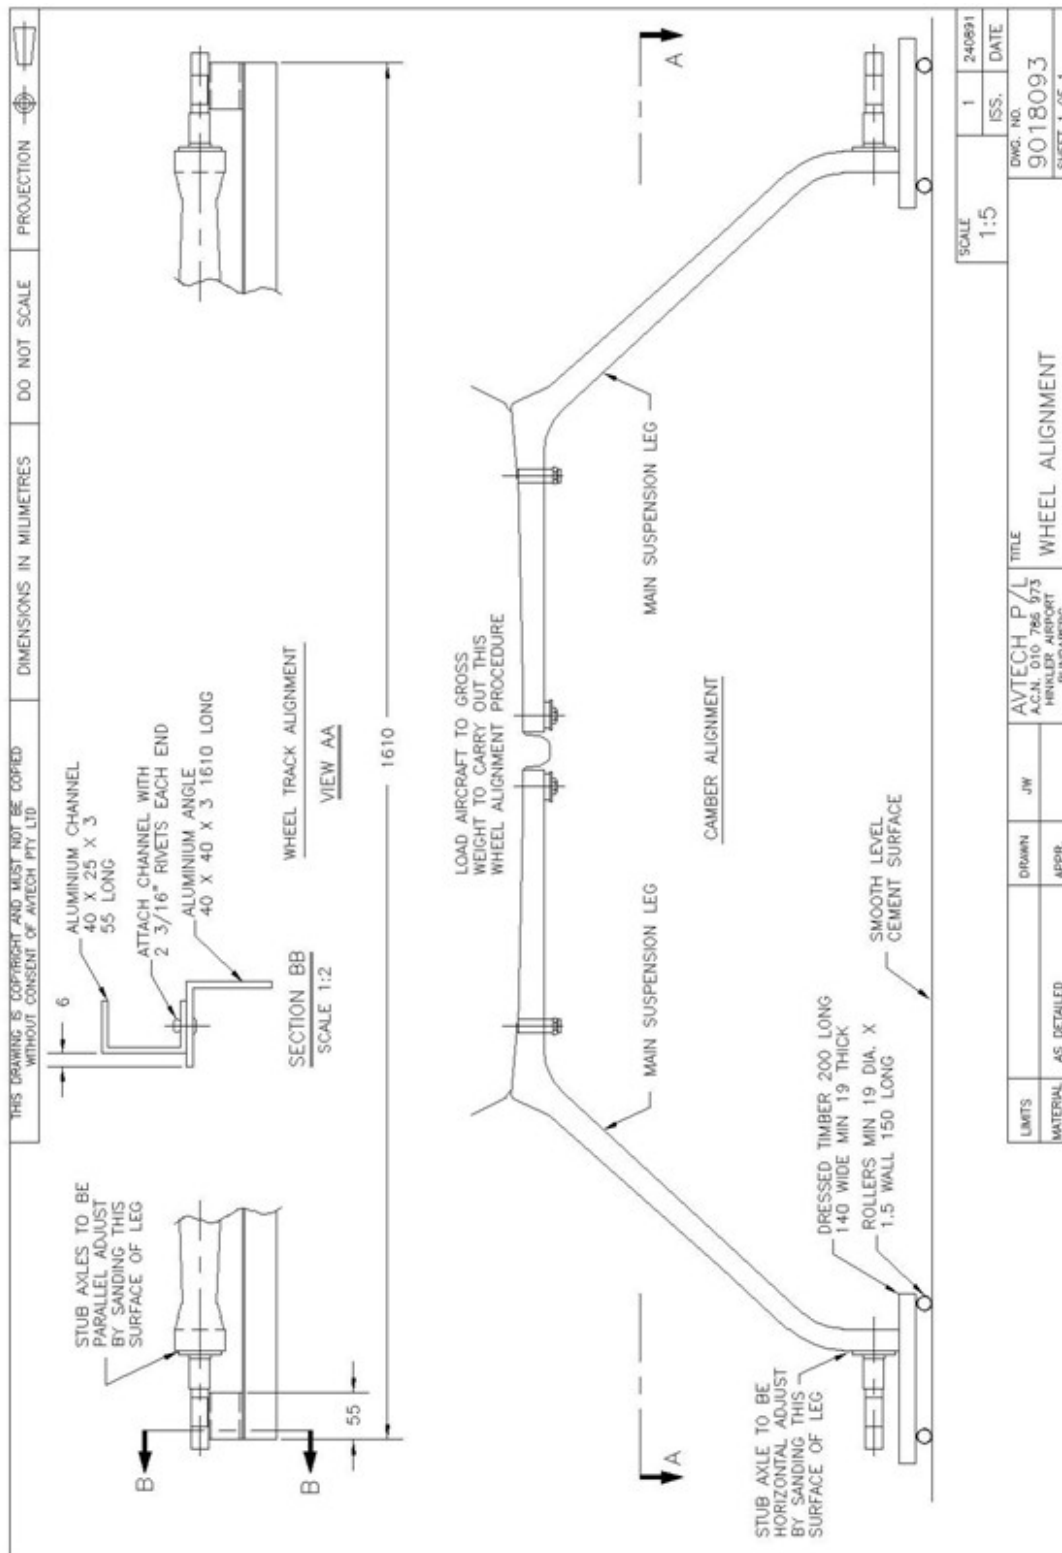

Figure 5-3: Axle Alignment
1. Main wheel axles must be aligned for proper ground tracking. Refer to Figure 5-3.
3. Very small adjustments can be made by sanding the fiberglass gear leg as shown in Figure 5-3. Adjustments more than 1/32" must be accomplished using shims.